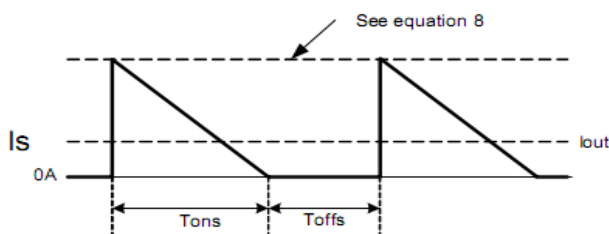

Figure 13. Secondary Current Waveform
The HT3706 is designed to work in constant-current (CC) mode. Figure 13 shows the secondary current waveforms.